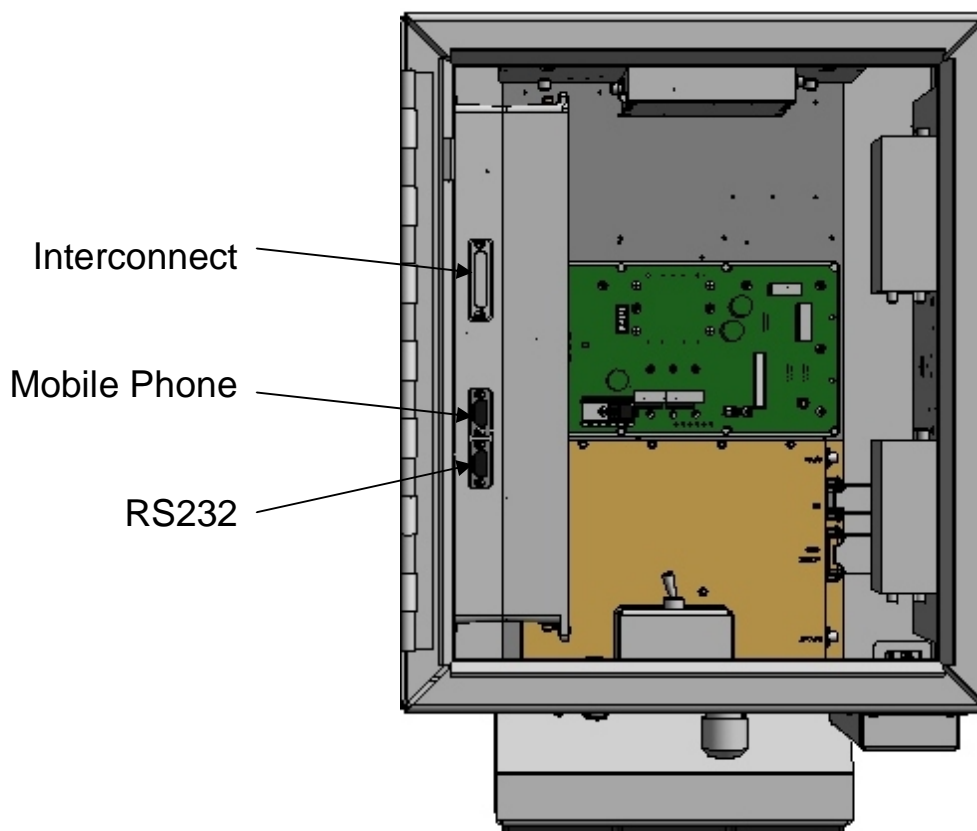

Figure 7: RS232 Port Location
- Connect a laptop computer with a terminal emulator program (i.e., HyperTerminal, ProComm, etc.) to the MirrorCell® II RS232 port with a DB9 straight-through serial cable, as shown in Figure 7 below. The male connector is attached to the repeater port and the female connector is attached to the laptop's RS232 serial port.